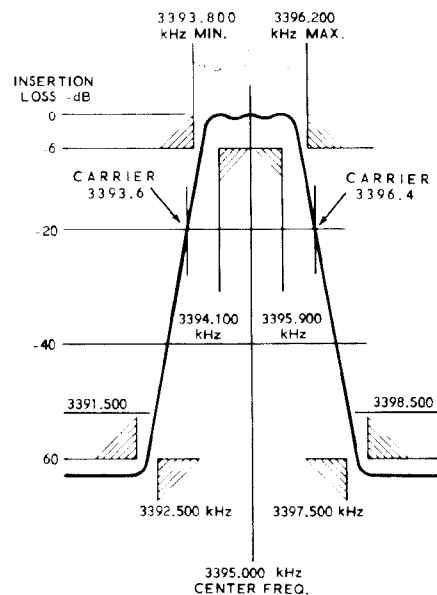

Figure 2-10
**CRYSTAL FILTER (Figure 2-10)**
Crystal filter FL1 has a center frequency of 3395 kHz and a usable bandwidth of 2.1 kHz (3393.95 kHz to 3396.05 kHz at the 6 dB points). See Figure 2-10. This filter, in the LSB mode of operation, passes only the sum frequencies